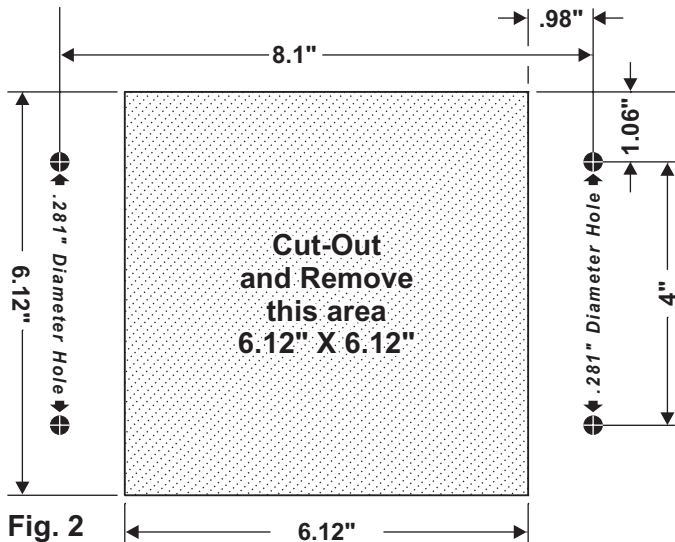

Fig. 2
2. Using the mounting dimensions shown, mark off the area to be cut out and the mounting bolt hole locations onto the mounting surface (Fig. 2).
3. Drill the four .281 mounting holes, then cut out and remove the indicated area (Fig. 2).